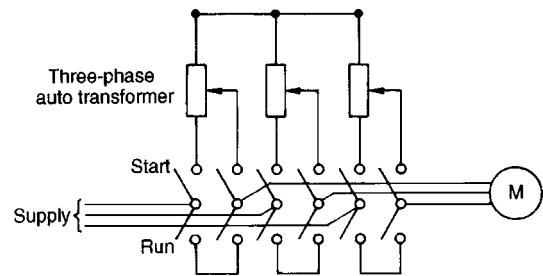

Figure 23.11
With this method, an auto transformer is used to reduce the stator voltage,  $E_1$ , and thus the starting current (see Equation (7)). However, the starting torque is seriously reduced (see Equation (12)), so the voltage is reduced only sufficiently to give the required reduction of the starting current. A typical arrangement is shown in Fig. 23.11. A double-throw switch connects the auto transformer in circuit for starting, and when the motor is up